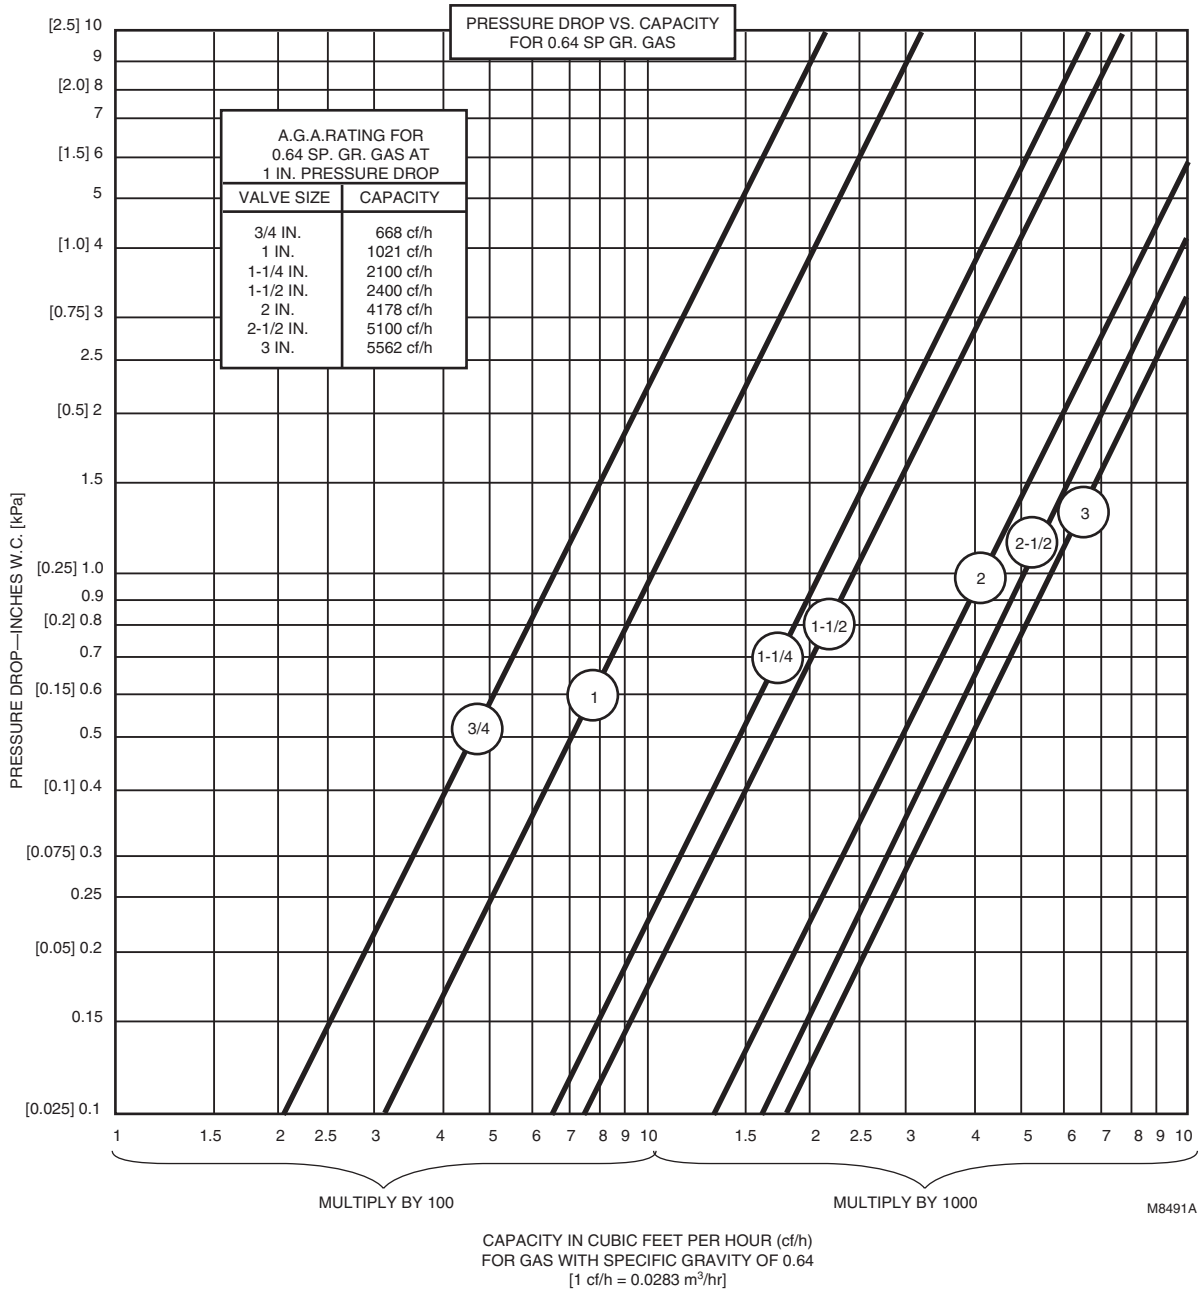

Fig. 2. Pressure drop vs. capacity chart for sizing gas valves.
6. Use the corrected burner capacity in cf/h when determining the gas valve size in Fig. 2.
7. Determine the maximum pressure drop across the valve, and draw a horizontal line at this pressure in Fig. 2.
8. Draw a vertical line in Fig. 2 at the capacity (cf/h) previously determined. Use the corrected capacity for a gas with a specific gravity other than 0.64.
4. Find the valve size from Fig. 2.